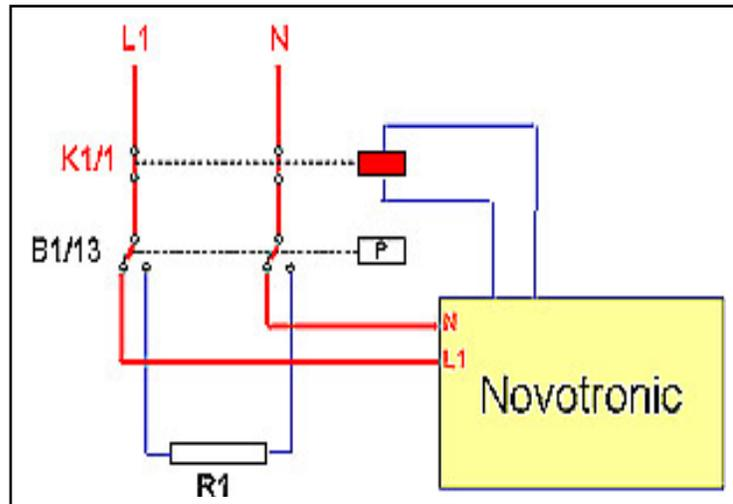

Figure 6-8: Circuit test path for F-51 (testing state)
1. Check the Heater relay for an open contact. If the relay is open during the testing state, Fig. 6-8. Then perform the following checks: